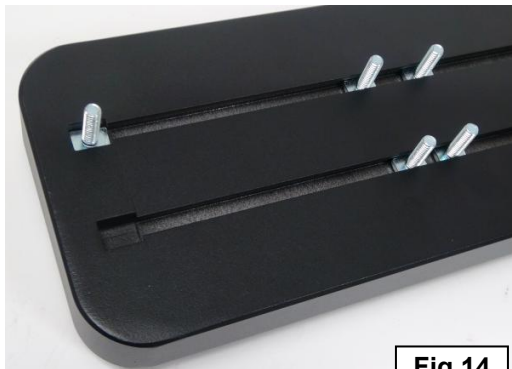

Fig 14
10. Select the driver/left side Running Board. Locate the openings cut at the end of the slots on the bottom of the Running Board, **(Figures 14)**. Insert (3) M6 Square Hex Bolt into each channel through the openings. Slide the T-Bolts into the approximate position in line with the (3) Brackets on the vehicle.
11. Carefully position the Driver/Left Running Board. Locate the openings cut at the end of the slots on the bottom of the Running Board, **(Figures 14)**. Insert (3) M6 Square Hex Bolt into each channel through the openings. Slide the T-Bolts into the approximate position in line with the (3) Brackets on the vehicle.